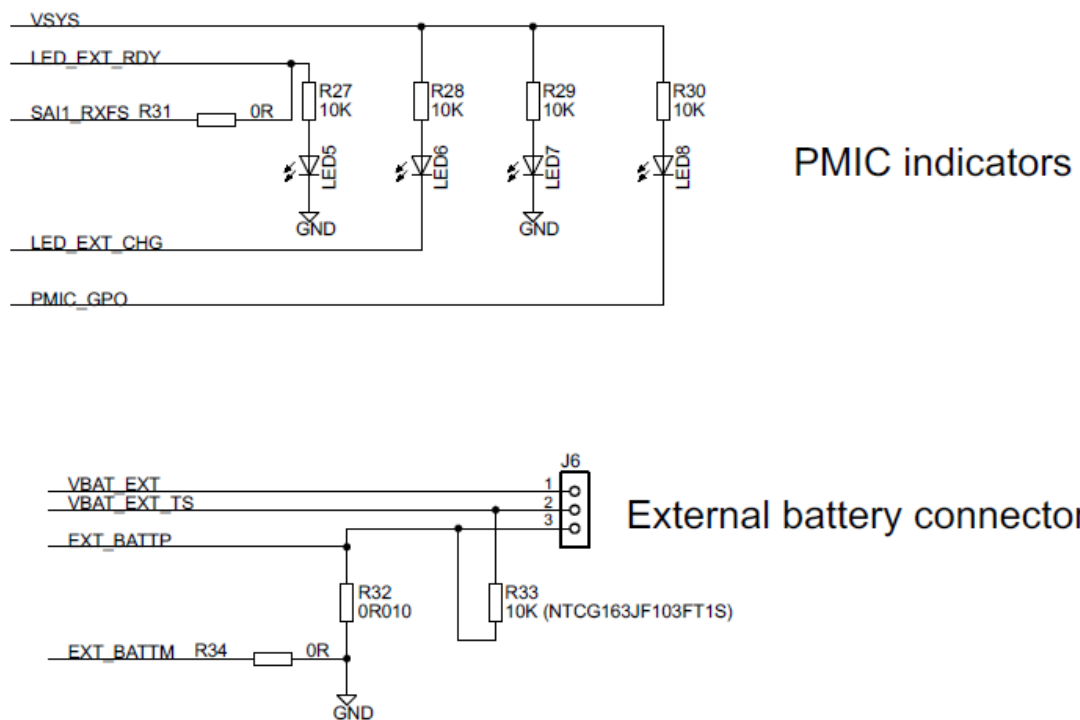

Figure 7 – Battery Integration to iMX7 Dual uCOM Board
- Connect each side of the 10 milliohm resistor to EXT_BATTP/EXT_BATTM. Also connect an NTC thermistor between EXT_BATTP and VBAT_EXT_TS. See Figure 7 for details.
- Optionally connect a LED with series with a 10K resistor between VSYS and LED_EXT_CHG. See Figure 7 for details.